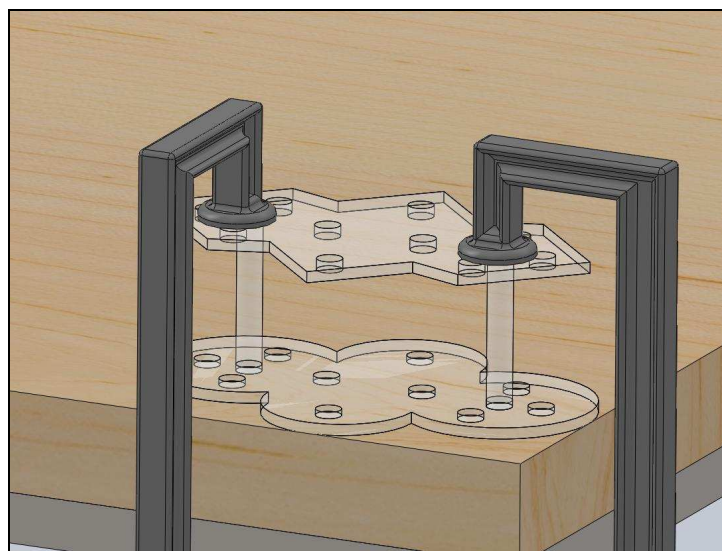

Figure 15: Clamp with 12" bar clamps and allow glue to cure
- E.** Once glue is in the proper holes, assemble the dowels, top, and bottom pieces together. Wipe away any excess glue. Clamp the pieces together as shown in Figure 15. Allow the project to sit clamped as long as directed on bottle.